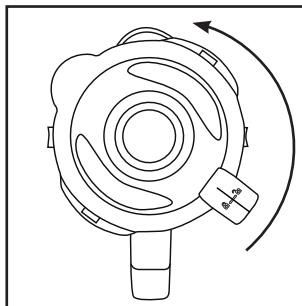
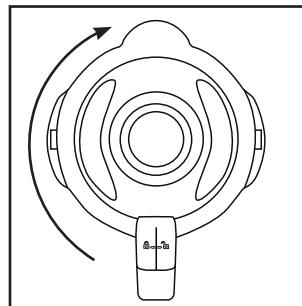

Fig. 1
Fig. 2
- 1) Rotate the blender **③** anticlockwise until the arrow  under the blender handle is located above the  position. Remove the blender **③** from the motor block **⑥** in a vertical, upward motion.
- 2) Remove the lid **②** by rotating it anticlockwise towards position  (see Fig. 1) until you can pull it upwards.
- 3) Fill the blender **③**.
- 4) Press the lid **②** firmly down onto the blender **③**. Close the lid **②** by turning it clockwise to position  until it audibly engages (see Fig. 2). Ensure that the pouring spout on the blender **③** is closed. The motor cannot start until the lid **②** is fitted flush.